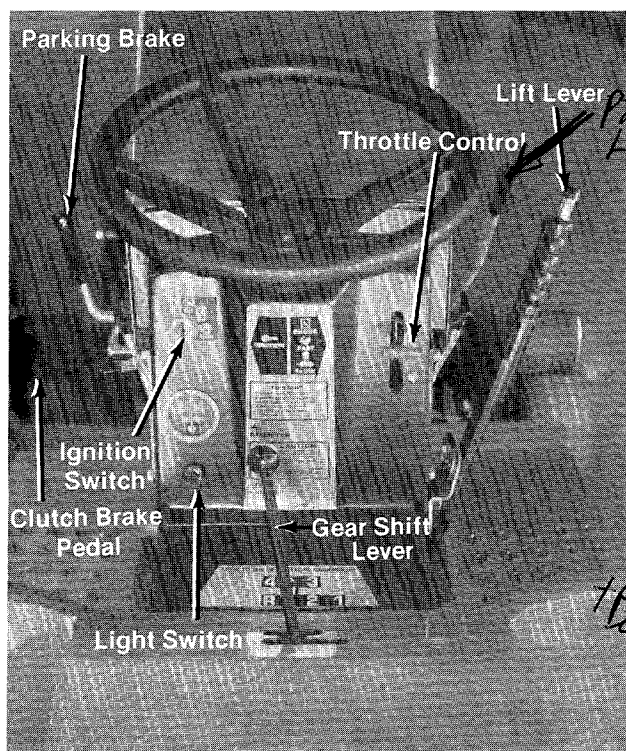

FIGURE 13
**a. Throttle control.** The throttle control is used to regulate the engine speed and choke the engine. The engine should be operated from  $\frac{3}{4}$  to full throttle when operating the cutting deck or snow thrower. (Optional) (See figure 13.)
**b. Gear Shift Lever.** Use the following guide for gear selection. See figure 13.
**d. Clutch-Brake Pedals** Depress both of them all the way down to stop of shift gears. Release pedals slowly to engage. See figure 13.
**g. Ignition Switch.** Turn the switch all the way to the right to engage the starter. As soon as the engine starts, release the ignition key so that the starter is switched off. Turn the key to the left to shut off the engine. See figure 13.
**h. Light Switch.** Pull the light switch out to turn on the lights. The ignition switch must be on to operate the lights. See figure 13.
**i. Ammeter.** The ammeter registers the rate of battery charge or discharge. The ammeter should register on the plus (+) side when the engine is running in the fast position until the battery is completely charged. With a fully charged battery or with the engine idling the ammeter will not show a charge. See figure 13.
Step 2. With the machine set on level ground place the gear shift lever in NEUTRAL (N) position. See figure 13.
Step 5. Set the throttle control in the CHOKE position. See figure 13.
Step 6. Turn the ignition key to the right to START position to start the engine. Allow the key to return to the ON position. See figure 13.
To stop the rider from moving forward or backward, depress the clutch-brake pedals. See figure 13.